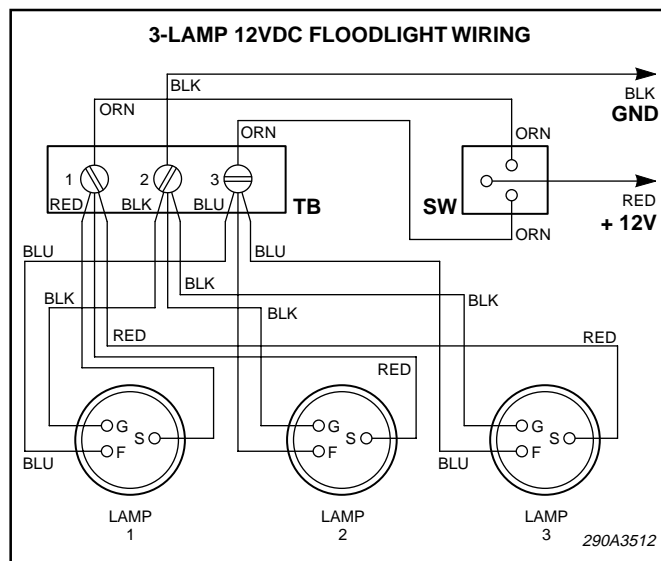

Figure 3.
3. See figure 3. Connect the power leads to the terminals on the replacement lamp(s).